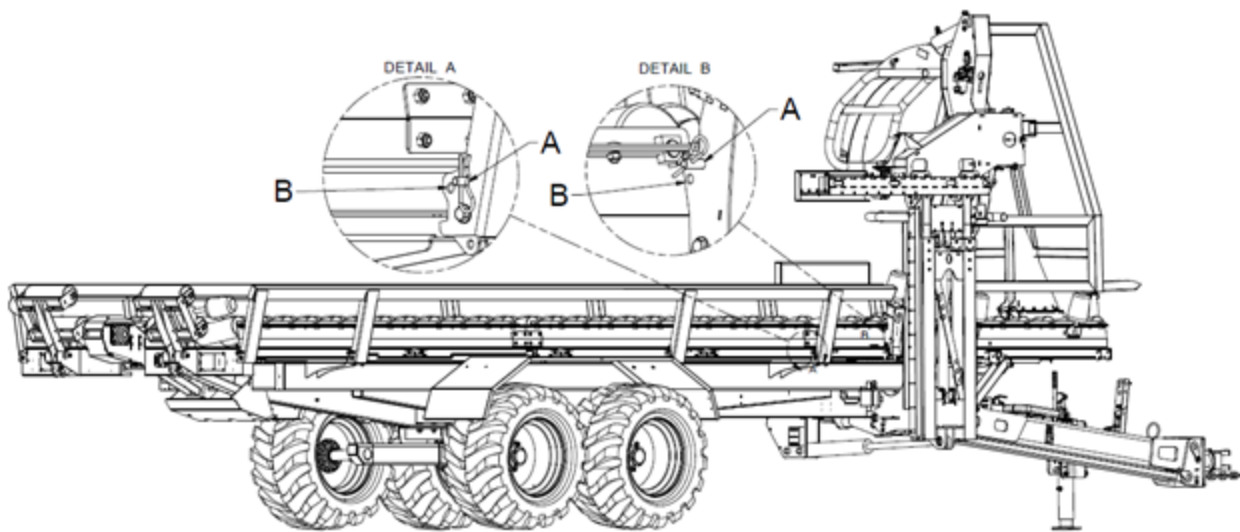

Figure 16 — Adjusting the Bale Guides (Detail A) and Bale Guide Roller (Detail B)
1. Remove the locking pins and locks from the bale guides and bale guide roller (see Figure 16).